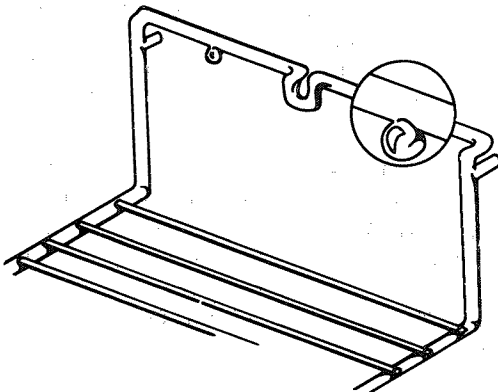

Figure 28
- Lock into place by pushing rack to left. Be sure round knobs are securely in place. See Figure 28.